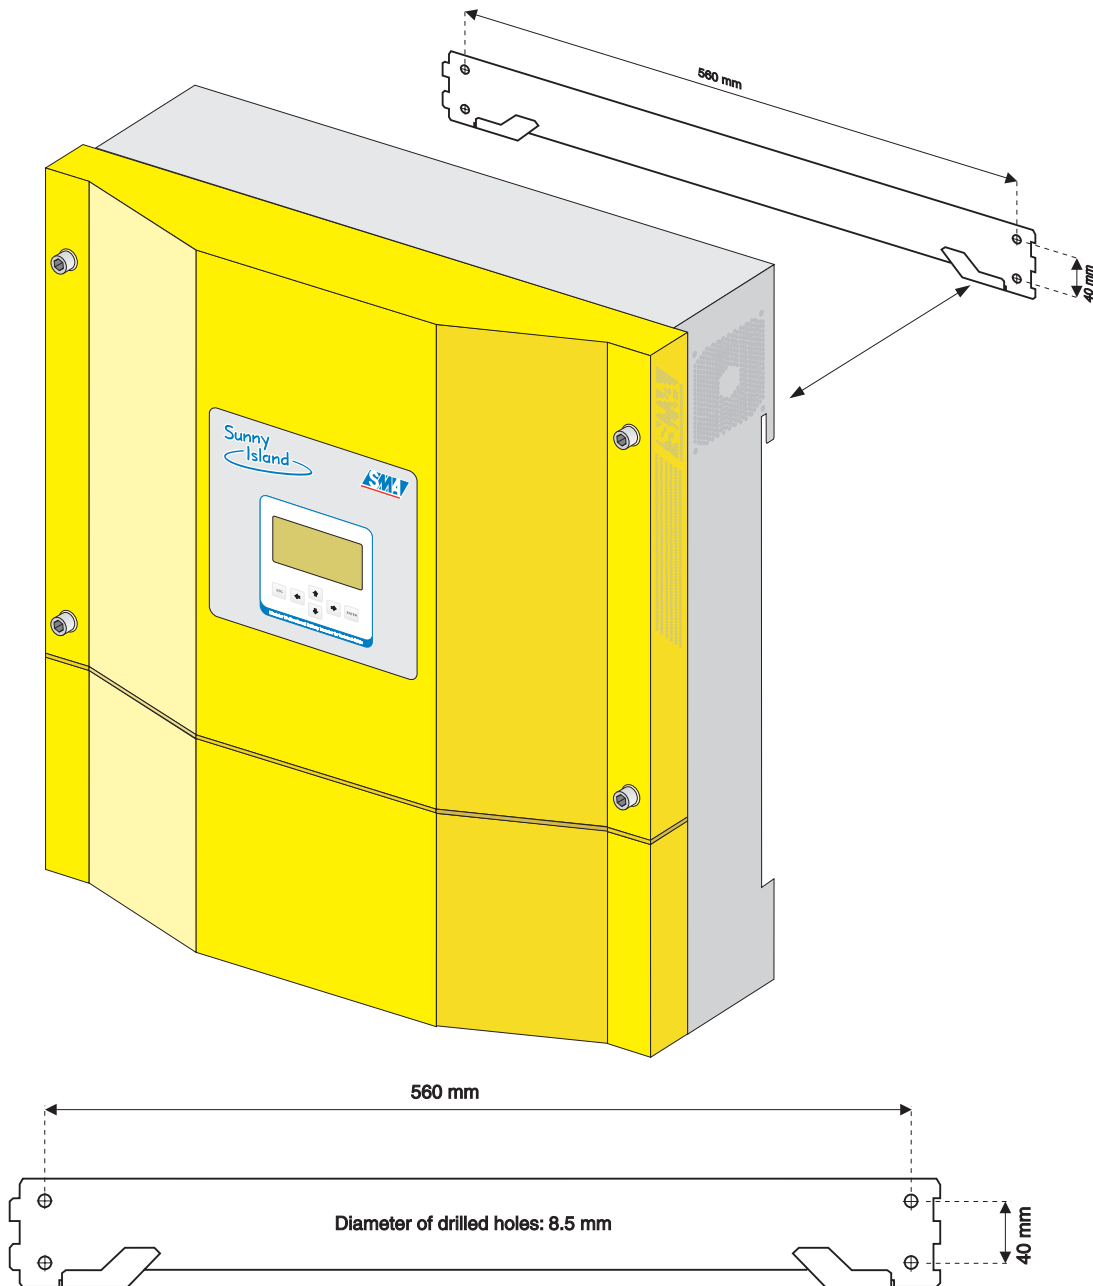
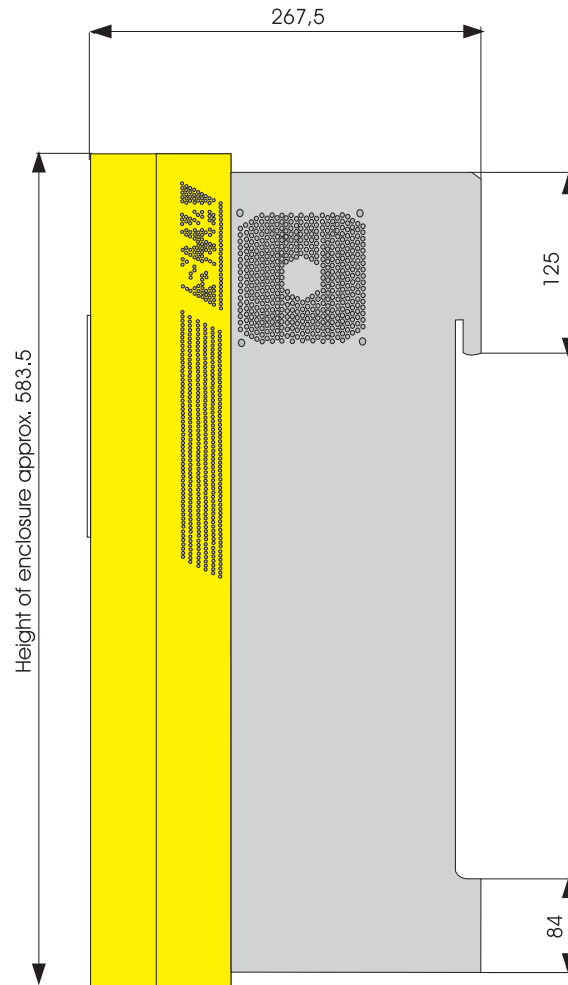

Fig. 3.1: Mounting bracket with fastening points
Fig. 3.2: Side view of the Sunny Island with dimensions
- 1 Bracket for recommended mounting to wall (Fig. 3.1)
- Provide a correct position of the battery inverter (see Fig. 3.1 and Fig. 3.2).
The Sunny Island is mounted on a mounting bracket on a firm surface. Four screws and the corresponding wall anchors are necessary. The screws and wall anchors are not included in the delivery and have to have a sufficient size. We recommend two 6 mm hexagon head screws and 8 mm wall anchors for fastening (see Fig. 3.1).